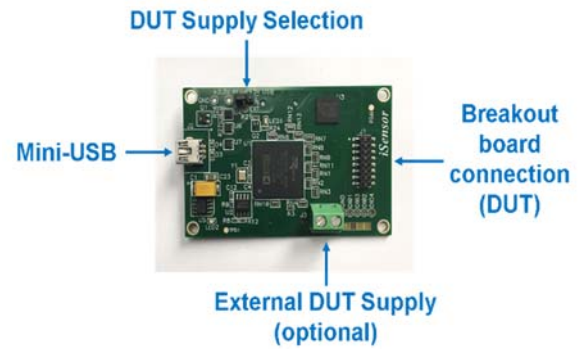

Figure 6. EVAL-ADIS2 Connector Locations
1. Ensure that Jumper JP1 (See “DUT Supply Selection” in Figure 6) is straddling the left “+3.3V REG” pin and the center pin, assuming the EVAL-ADIS2 board is oriented as shown in Figure 6.